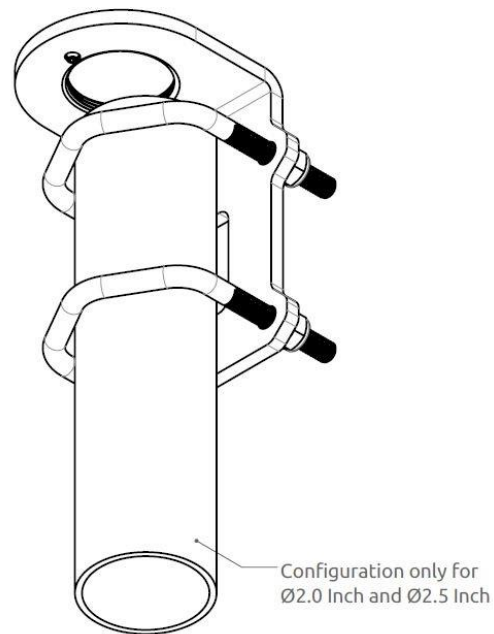
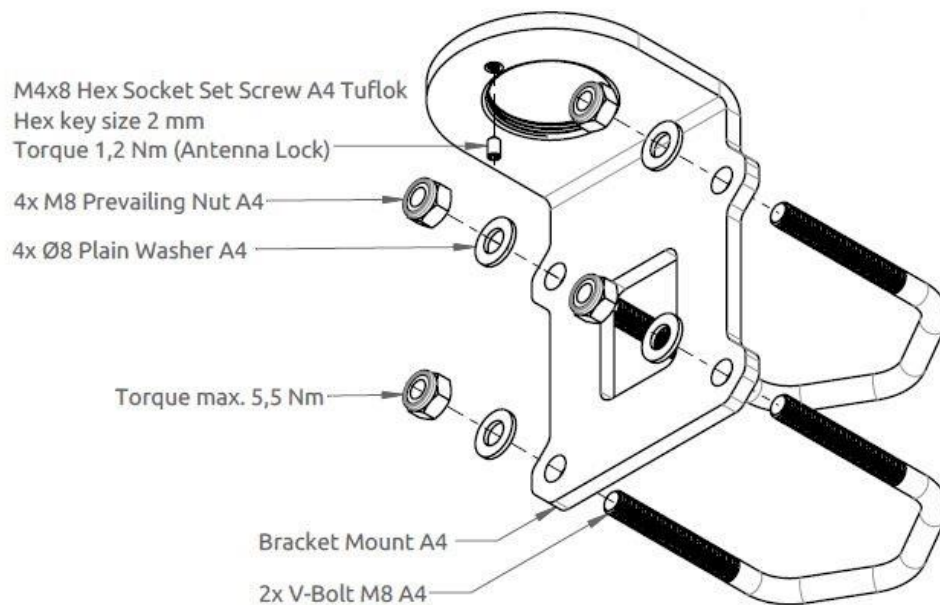

Figure 21: Bracket Mount (1.5" to 2.5" tube), Antenna Unit – vertical tube mount.
Figure 24: Bracket Mount (1.5" to 2.5" tube), Antenna Unit – horizontal tube mount.
The Bracket Mount (1.5" to 2.5" tube), Antenna Unit installation options are illustrated in Figure 21 to Figure 24.
1. Fasten the bracket mount to a tube (max. 2.5" tube) by using the two V-bolts and the M8 prevailing nuts, as illustrated in Figure 24 on page 20 (max torque = 5.5 Nm)
NOTE: Always fasten the Bracket Mount, Antenna Unit (1.5" to 2.5" tube) to the tube, before installing the LT-3130 Antenna Unit (the antenna unit and bracket mount are fastened together by the thread lock). Remember to secure the pinot screw after the antenna unit has been fastened. The torques are specified in Figure 24 on page 20.